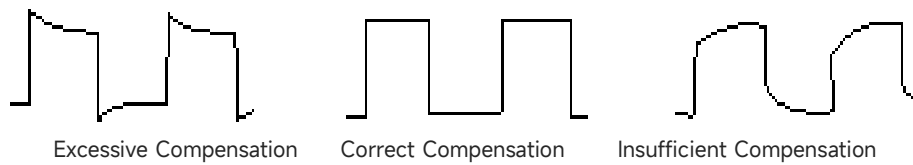

Figure 2 Calibrating Probe Compensation
- View the displayed waveform, as shown in Figure 2.